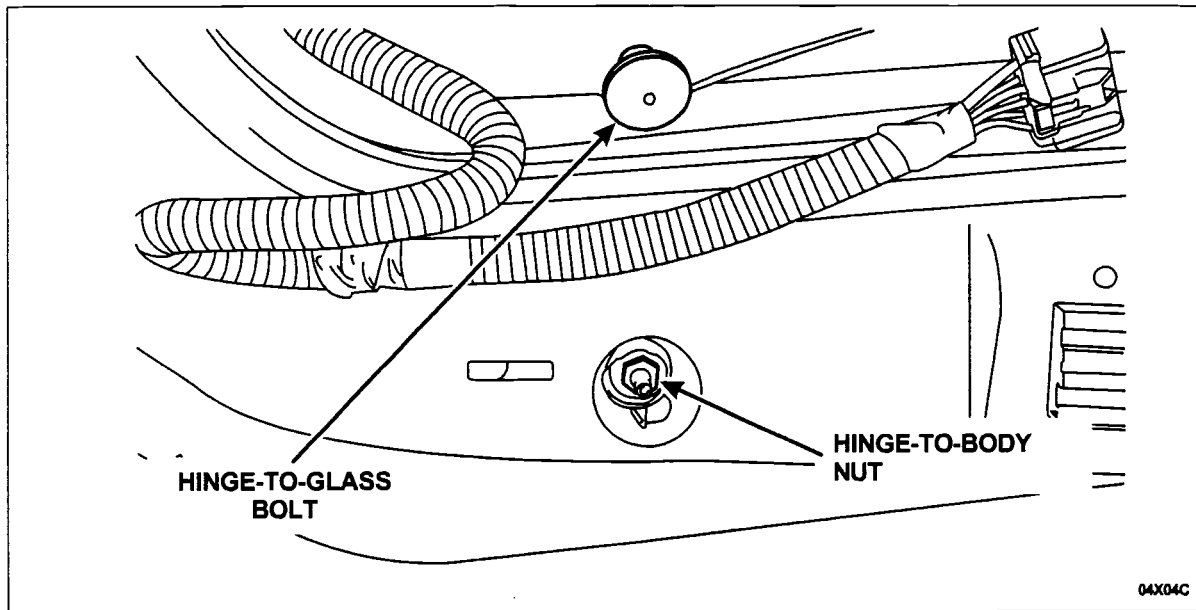

FIGURE 3
- Using a magnetic socket or tool, remove one (1) liftgate glass hinge-to-body nut then the hinge-to-glass bolt and remove one (1) hinge from the vehicle. See Figure 3.